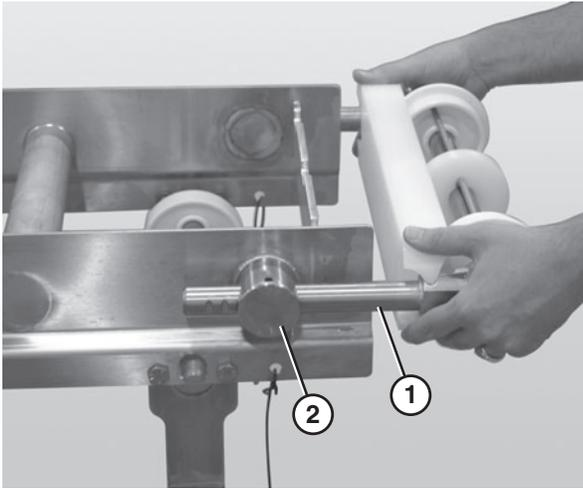

Figure 77
2. Slide the idler tail assembly (**Figure 77, item 1**) out of the take up blocks (**Figure 77, item 2**).